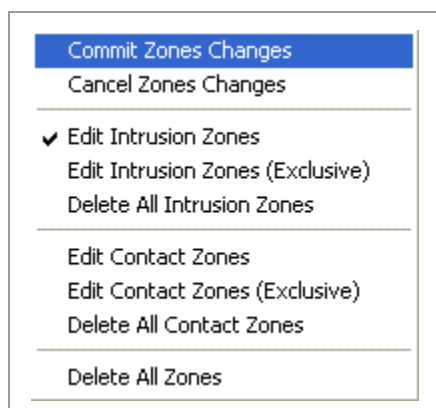

Figure 19 - Edit Menu Commands
After editing one (1) or more zones, the changes may be saved or discarded. This is accomplished using the appropriate **Edit Menu** command, **Commit Zone Changes** as shown in **Figure 19**, or by using the commit button .